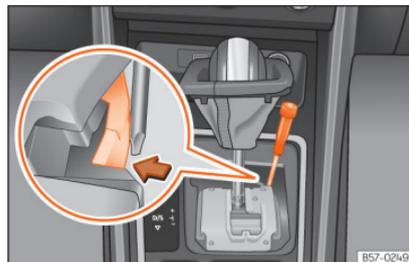

Fig. 165 Gear selector lever: manual release from the parking position.
- Using the flat part of a screwdriver, press the yellow tab sideways and keep it pressed down » Fig. 165.